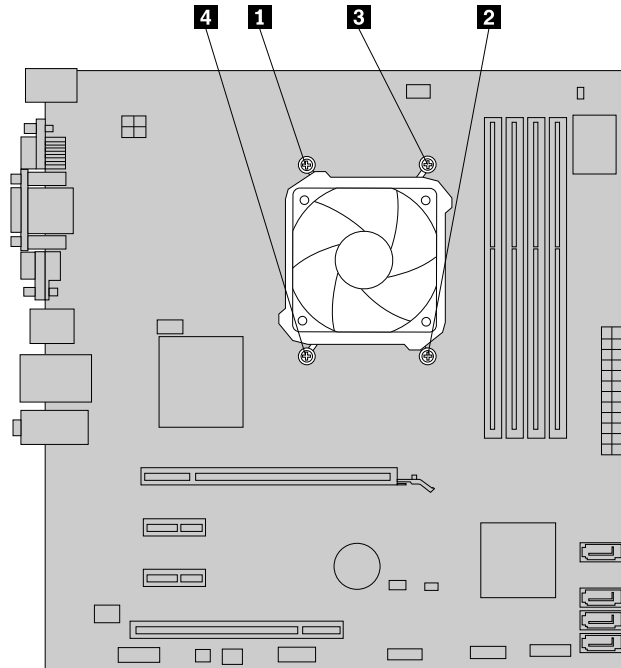

Figure 19. Screws that secure the heat sink and fan assembly
9. Follow this sequence to install the four screws to secure the new heat sink and fan assembly, as shown in Figure 19 “Screws that secure the heat sink and fan assembly” on page 24: